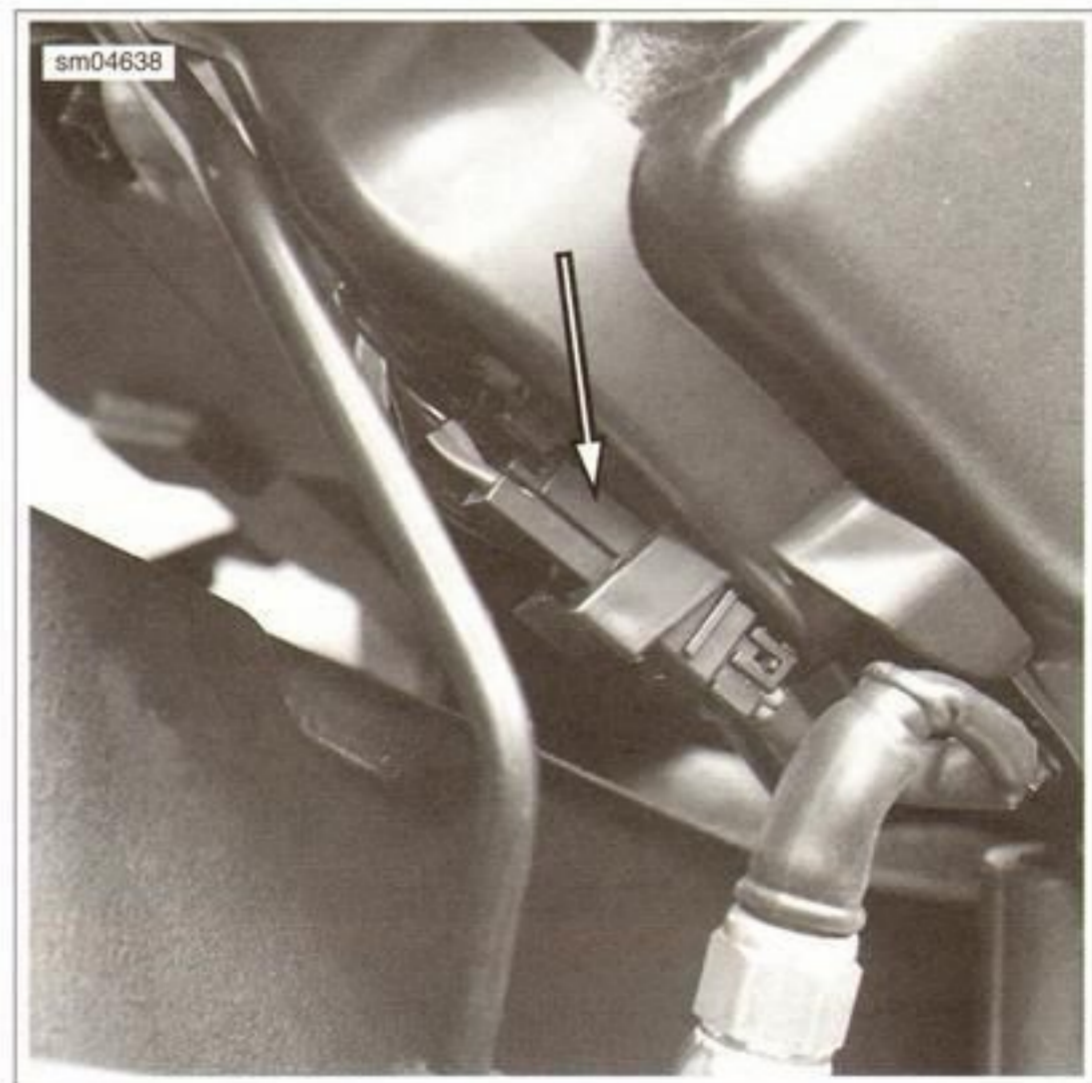

Figure 2-75. Rear Brake Light Switch Connector [121]
2. See Figure 2-75. Access the rear brake light connector clipped in the fuel pump cover and separate the connector halves.